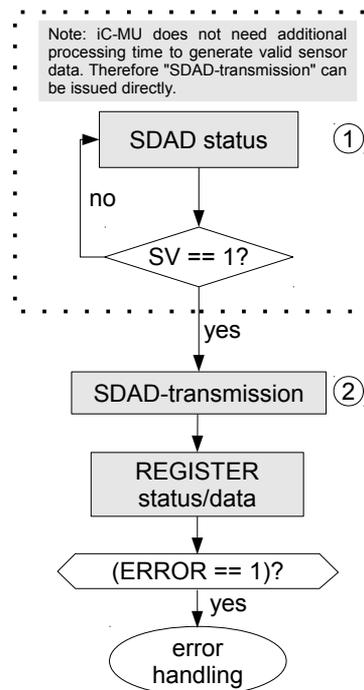

Figure 26: Example sequence of the commands SDAD Status/SDAD-transmission
Figure 26 shows the interaction of the two commands **SDAD Status** and **SDAD transmission**. It is not necessary to start each sensor data communication with the command **SDAD Status** (1). iC-MU has no processing time and can therefore directly output valid sensor data. Because of that the command sequence can start with **SDAD-transmission** (2). Following this, the command **REGISTER status/data** should be executed to detect an unsuccessful SPI communication.